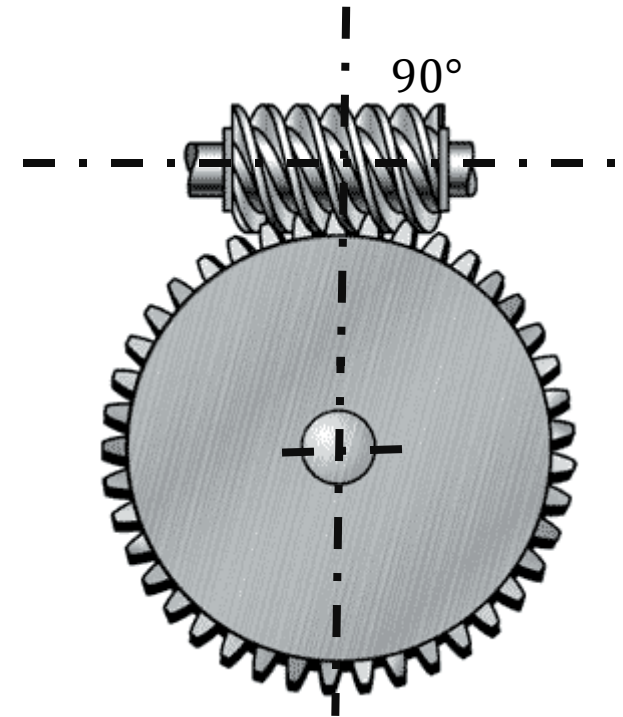

Figure 8-4 Worm Gears
- **Worm Gears:** Worm gearsets are used to transmit rotary motion between non-parallel and non-intersecting shafts. As shown in Figure 8-4, the worm resembles a screw.